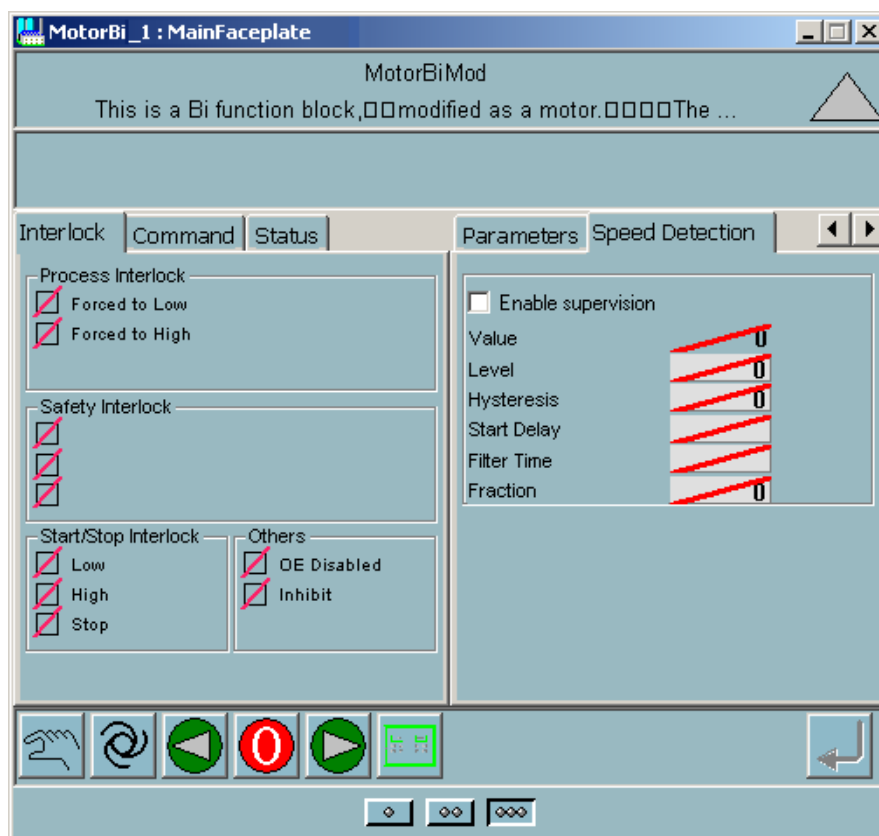

Figure 261. The newly added Speed Detection tab in the extended faceplate
17. Select the Speed Detection tab placed in the right side of the faceplate to view the newly added graphics, as shown in Figure 261.